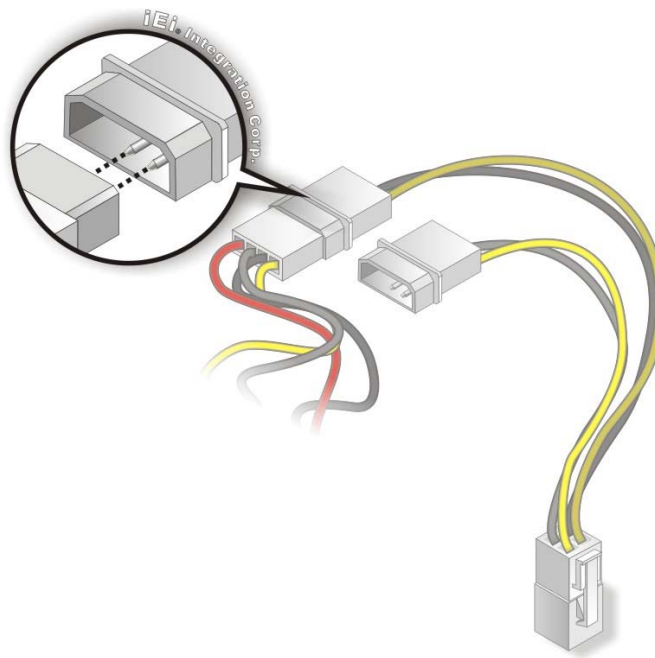

Figure 4-7: Connect Power Cable to Power Supply
Step 3: **Connect Power Cable to Power Supply.** Connect one of the 4-pin (1x4) Molex type power cable connectors to an AT power supply. See Figure 4-7.